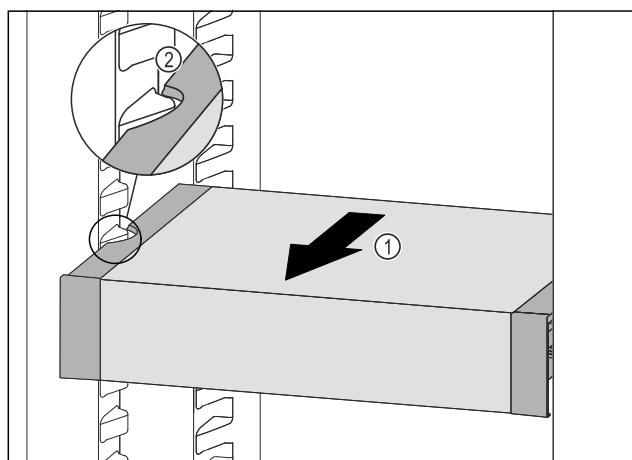

Fig. 140
- ▶ Pull VarioSafe forwards Fig. 140 (1) until the recesses in the side of the VarioSafe are at the level of the support rib in the fridge section. Fig. 140 (2)